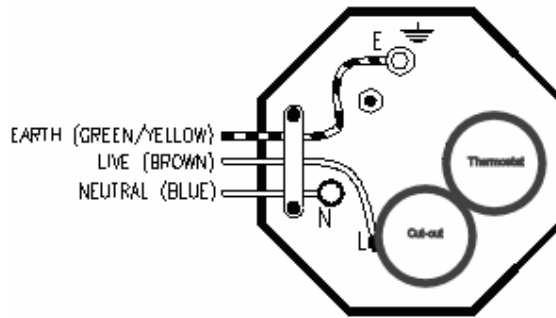

Fig 7.1
7.1.The immersion heater - A 3kW 230v 50Hz immersion heater is supplied with the cylinder. It should be wired in accordance with the instructions given in Fig 7.1. The cable **MUST** be routed through the strain relief bush. We recommend that the control thermostat is set at 60°C, the high limit trip is factory set at 85°C.
- c) Wire the immersion heater through a double pole isolator switch or controller, having contact separation of at least 3 mm, using 1.5mm sq. flexible cable which must be fully earthed. The live to the immersion should be wired through its thermostat and cut-out as shown in figure 7.1, the Neutral to the Neutral terminal.